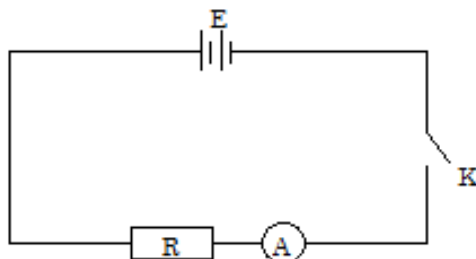

Figure 3
- Connect the circuit as shown in figure 3 above. Put $R = 1\Omega$ and quickly read the value of i on the ammeter.